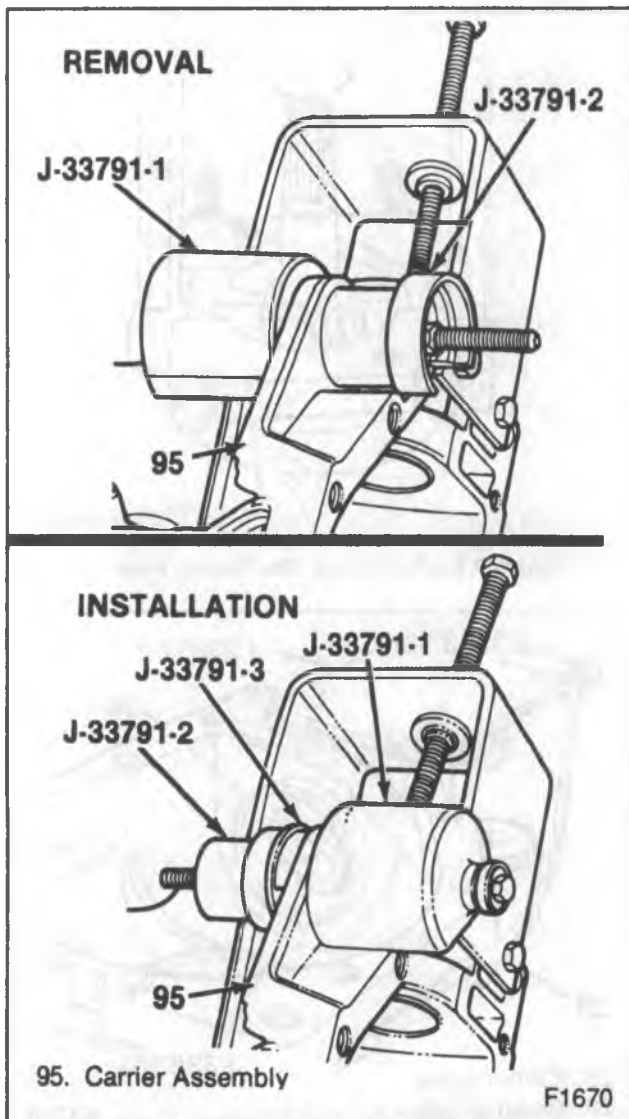

Figure 14—Replacing the Case Bushings
28. Bushings (48). Use J 33791 (figure 14).